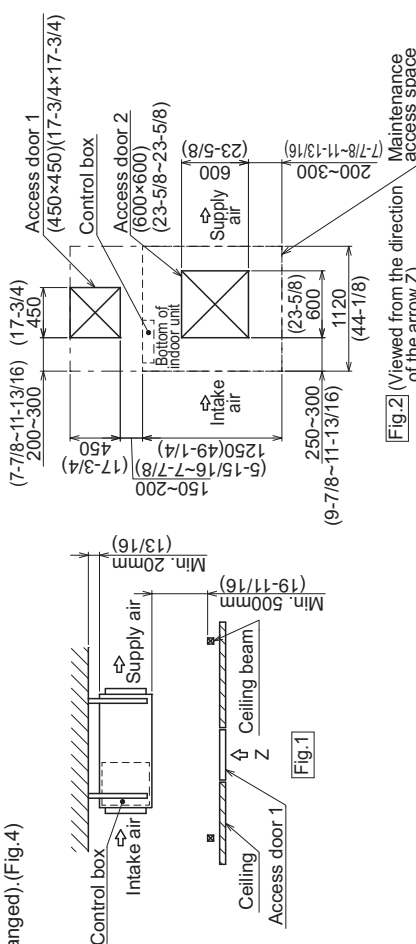

Fig.2 (Viewed from the direction of the arrow Z)
- (1) When a space of 500mm(19-11/16inch) or more is available below the unit between the unit and the ceiling. Create access door 2(600×600mm)(23-5/8×23-5/8inch) for the maintenance from the bottom when the motor, fan, heat exchanger and drain pan is cleaned(exchanged). (Fig.2)